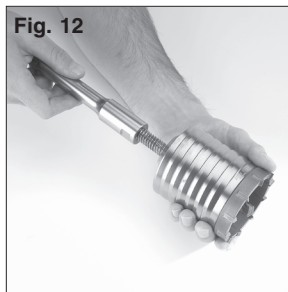

Fig. 12
1. Clean and lubricate the threads on the adapter and core bit to make later removal easier. Screw the threaded end of the centering bit into the core bit (Fig. 12). Thread the adapter shank to the rear of the core bit.